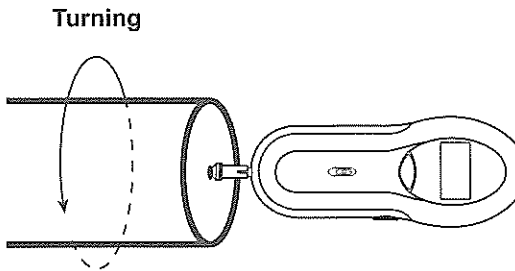

Figure 4
- Lightly press the rotating touch part against the center of the turning object ( Figure 4 ), press and keep pressing the **TEST** button.
- For RPM measurements, the rotating touch part must be placed at the center of the turning object to be tested. ( Figure 4 )